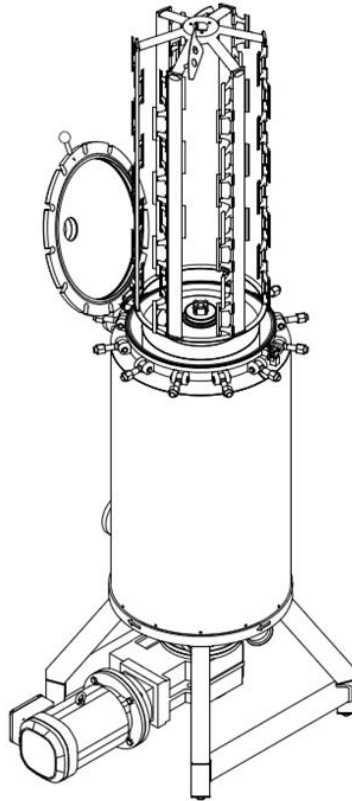

Figure 7.5-10: Cage installation
- ! When installing the seal, sometimes, after removing the seal press fixture (Fig 7.5-10) the seal returns back (seal springs). When the seal is compressed, locate the second shaft (cage) key. Use the second shaft key to prevent the seal from returning back.